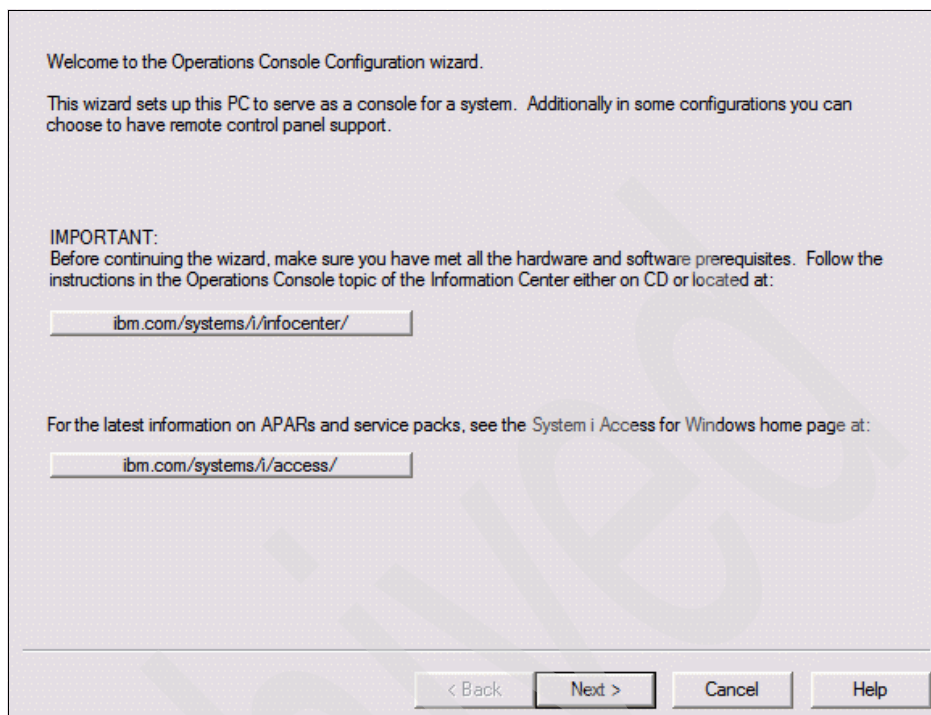

Figure 7-35 IBM System i Operations Console Welcome
3. You reach the Operations Console Configuration wizard welcome window, as shown in Figure 7-35 on page 275.